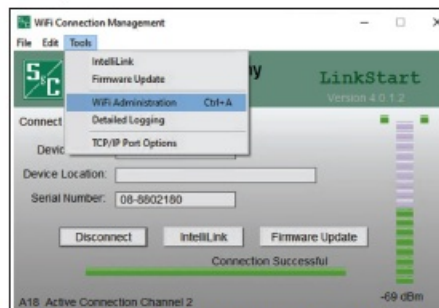

Figure 25. The Wi-Fi Administration entry on the Tools menu.
- STEP 3. Open the Tools menu and click on the Wi-Fi Administration option. See Figure 25.